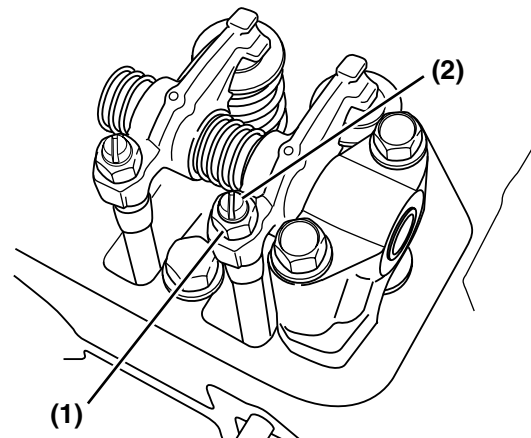
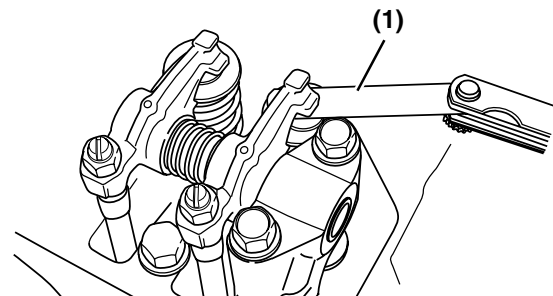

Figure 6-75
Figure 6-76
5. Loosen the valve adjusting screw lock nut (Figure 6-75, (1)) and valve adjusting screw (Figure 6-75, (2)) on the rocker arm and check the valve for inclination of the valve cap, entrance of dirt, or wear.
6. Insert a feeler gauge of the correct thickness (Figure 6-76, (1)) (see *Adjustment Specifications* on page 6-6) between the rocker arm and valve cap. Turn the valve adjustment screw to adjust the valve clearance so there is a slight “drag” on the feeler gauge when sliding it between the rocker arm and the valve cap. Hold the adjusting screw while tightening the valve adjusting screw lock nut (Figure 6-75, (1)). Recheck the clearance.